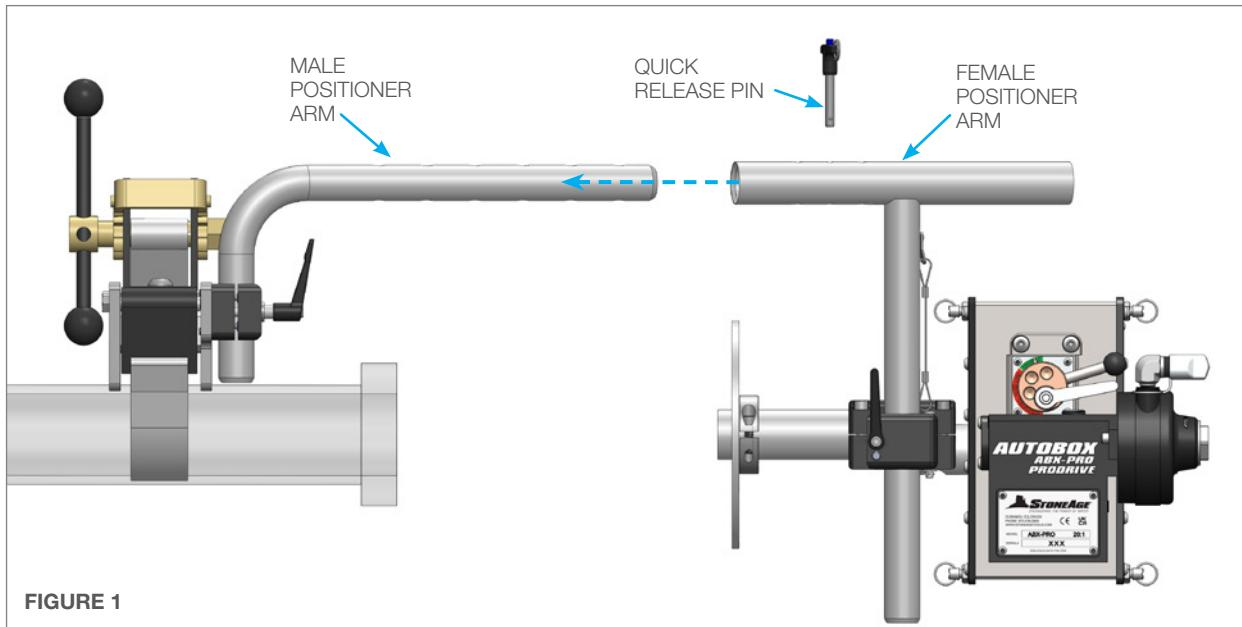

FIGURE 1
1. Slide the Female Positioner Arm onto the Male Positioner Arm. (**Figure 1**) Line up the incremental holes and push the Quick Release Pin through both positioner arms. (**Figure 1.1**)
1. To load a hose, release the Adjustable Handle and rotate the Cam Lever until the Indicator Pin is in the “**Disengaged**” position. This opens up the space between the rollers. (**Figure 1**)